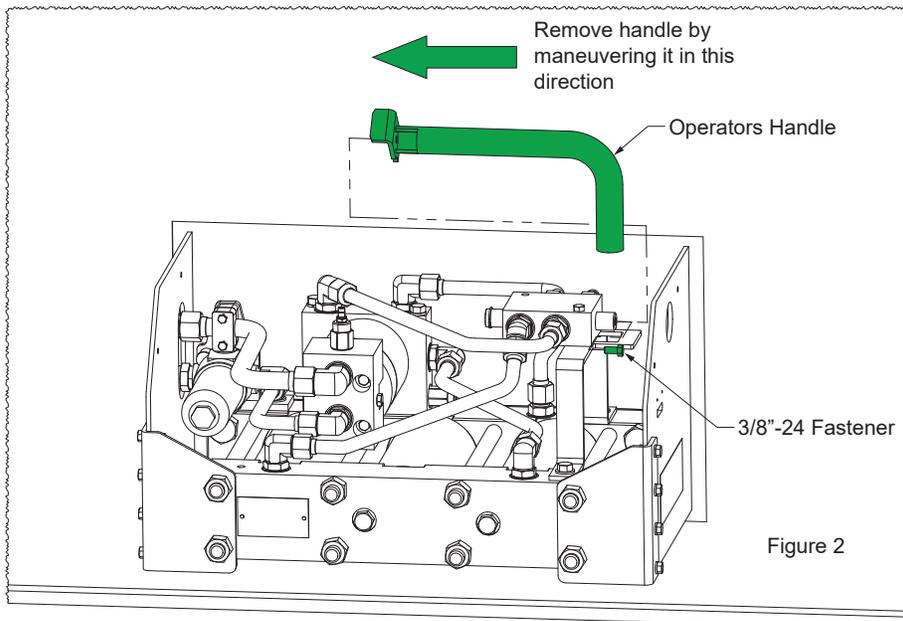

Figure 2
There is one (1) 3/8"-24 screw securing the operators handle to the control valve spool. Once removed rotate and slide the handle **TOWARDS** the center of the Brute to fish it out of the opening (fig. 2).